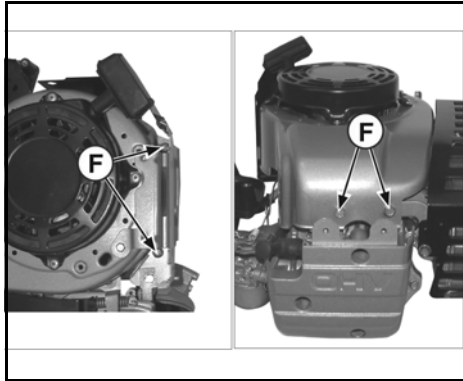

Figure 8
5. Remove the oil fill tube and dipstick. Remove the screws (F, Figure 8) and blower housing.